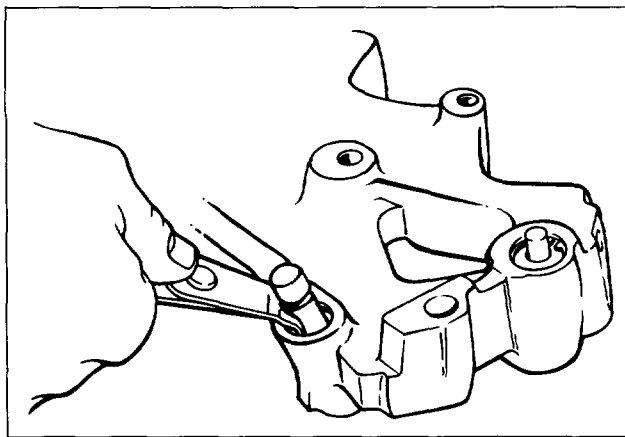

FIG. 28
4. Place the retaining washer and snap ring over the foot of the master piston and compress them into the bore. Using snap ring pliers, replace the snap ring in the groove to retain the master piston (see Fig. 28).